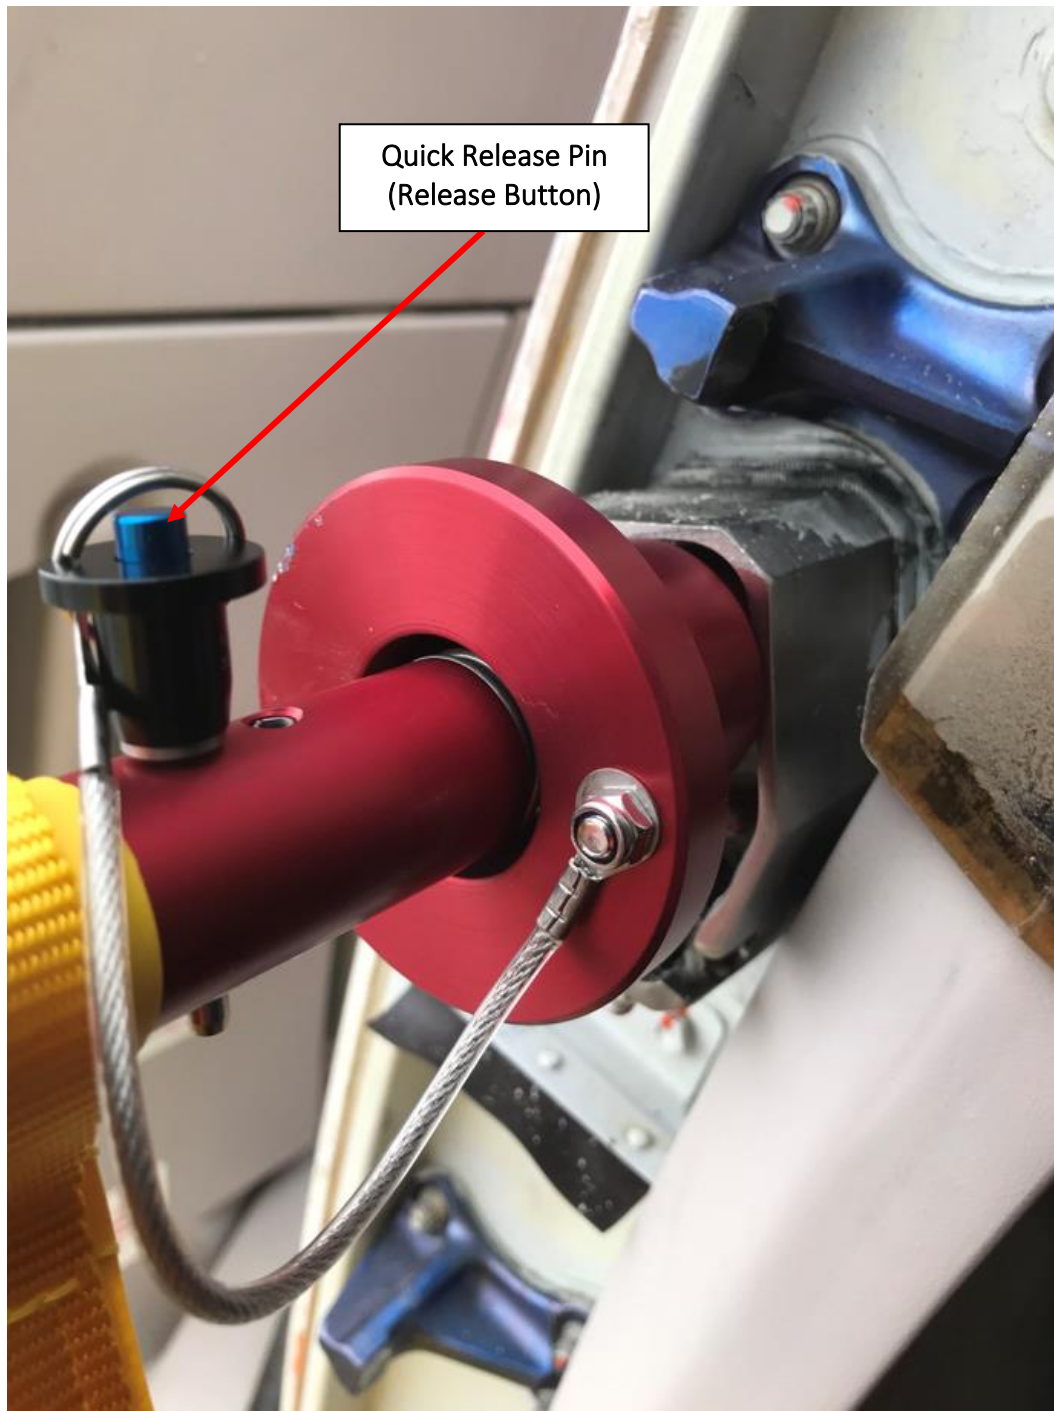

Figure 12 Top Spring-loaded and Locking Pin in position.
- 4.1.13 With the button released the pin should not be able to be removed see figure 12.